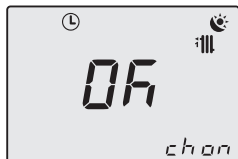

Fig. 2.22
Press key 20 briefly to save (Fig. 2.22).